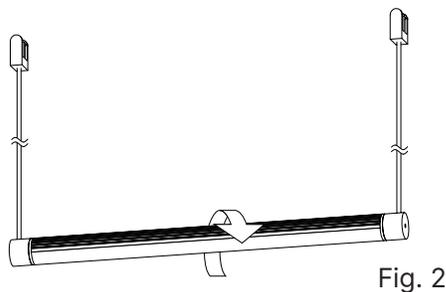

Fig. 2
2. Insert **Luminaire** onto **Hangers** and secure with **Set Screws** (Fig. 2). **Note: Luminaire can rotate 360° (Fig. 2)**